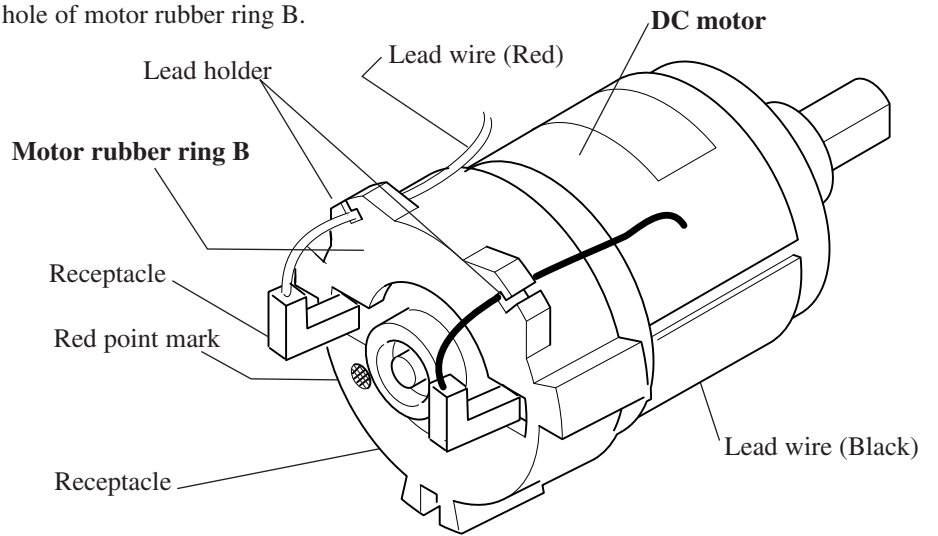

Fig. 5
- * Lead wire (Red) has to be connected to the terminal of red point mark side.(see Fig.5)